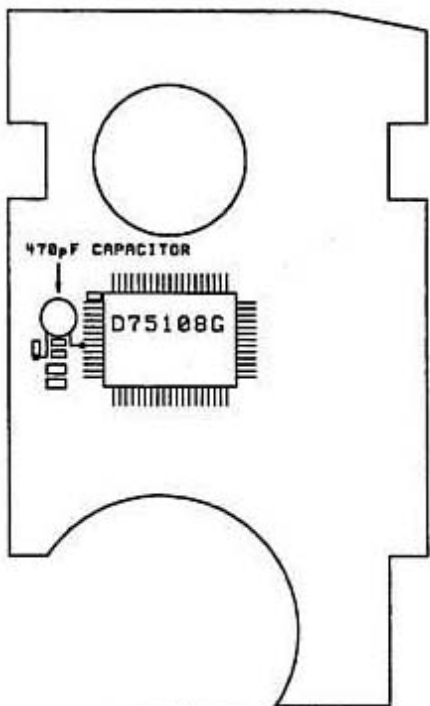

FIGURE 6
11. Size, cut, and bend the leads of the 470 pF ceramic capacitor and then install the component between pin 59 of the microprocessor and the ground side of the 33 Kohm chip resistor. Figure 6.